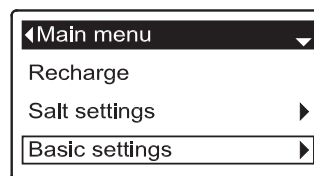

FIG. 96
1. From any of the rolling status screens, press the SELECT (O) button to display the **Main menu**.
2. Press the DOWN (▼) button to scroll through the menu options until **Basic settings** is highlighted (See Figure 96).